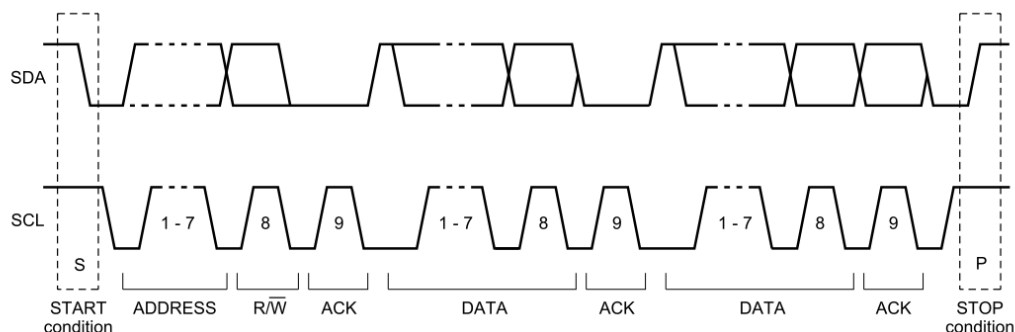

Figure 45. An Example of I2C Data Transfer
The RT8848C features an I2C interface to allow users to adjust various operating parameters. The supported operating parameters that can be adjusted through I2C communication are summarized in the register tables below. The data transfers follow the format shown in Figure 45. After the START condition (S), a slave address is sent. A data transfer is always terminated by a STOP condition (P) generated by the master. However, if a master still tries to communicate on the bus, it can generate a repeated START condition (Sr) and address another slave without first generating a STOP condition. Various combinations of read/write formats are then possible within such a transfer.